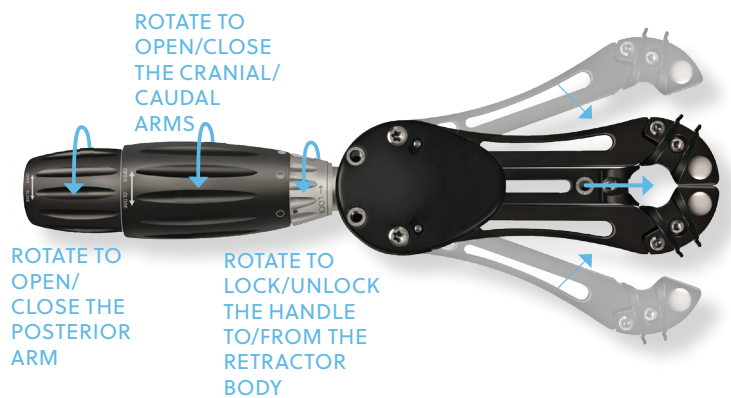

Figure 7
- Rotate the cranial/caudal handle clockwise to close the **cranial/caudal arms**. Rotate the posterior handle clockwise to close the posterior arm (**Figure 7**).